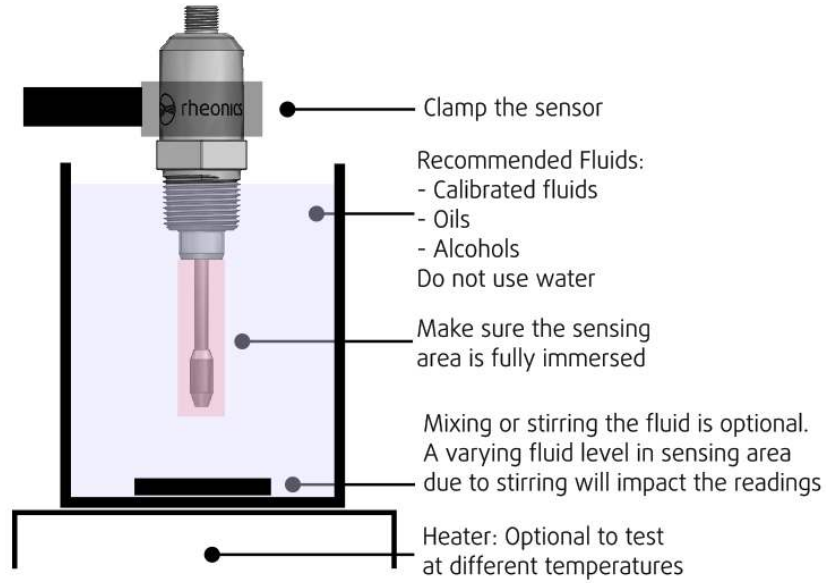

Figure 14: SRV calibration setup example.
- Have enough space and fluid to surround the sensor sensing element (red zone in Figure 14). Have fluid level higher than the minimum level required.